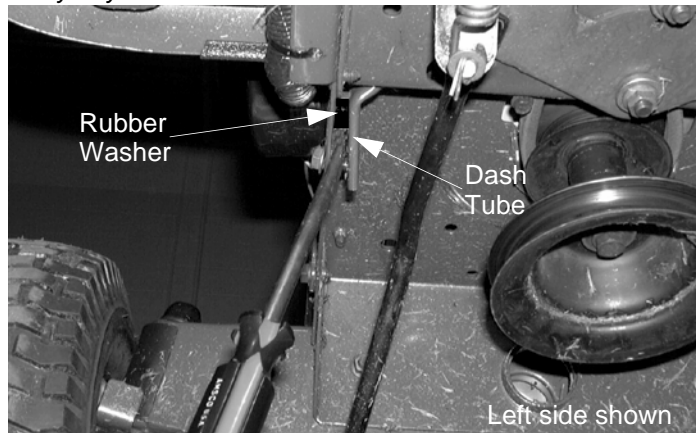
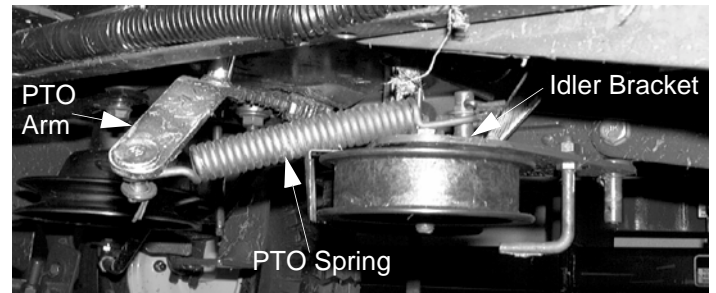

Figure 4
Figure 6
- Using a small pry bar from below, pry the dash support tube away from the frame enough to slide one **rubber washer** between the **dash tube** and frame. Line the **rubber washer** up with the holes from which the bolt was removed. See Figure 4.
NOTE: The deck and belt are removed in Figure 4 and Figure 6 for clarity only.
- Remove the cotter pins and flat washers which secure the **PTO spring** to the **PTO arm** and **idler bracket**. Remove and discard the **PTO spring**. See Figure 6.
- Replace the washers and cotter pins which secure the PTO Spring. See Figure 6.